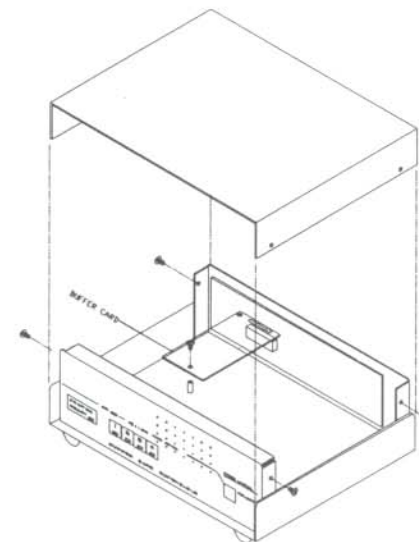

Fig 2-3-1 The AS-411P's Buffer Card Installation
- for AS-411P users: see Fig 2-3-1.